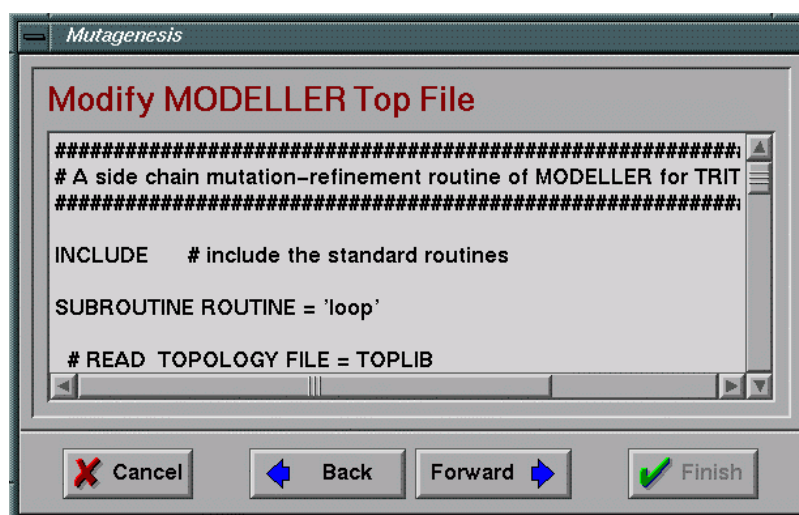

Fig 12.12 Window for specification of parameters for MODELLER
- 9) Modify the MODELLER parameters file (.top) directly in TRITON (**Fig 12.12**). This option is implemented in TRITON for more experienced users who want to modify the parameters for calculation. Default parameters are already pre-adjusted for smooth operation of MODELLER program.